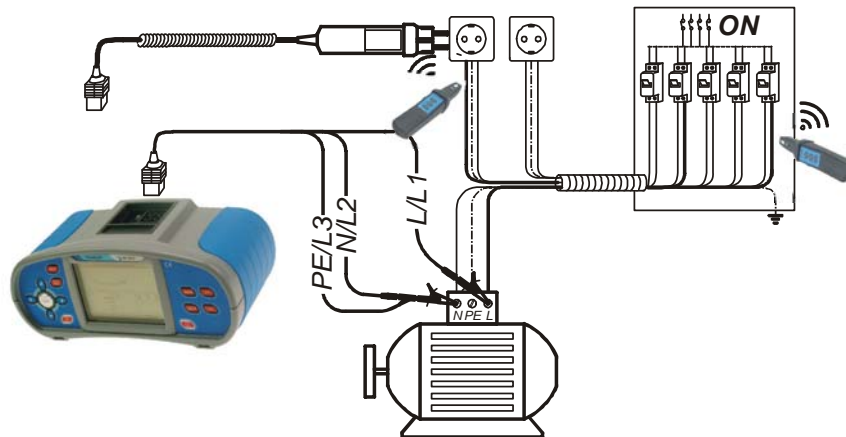

Figure 5.60: Tracing wires under walls and in cabinets
- ❑ **Connect** test leads to the tested object (see *figures 5.60 and 5.61*).